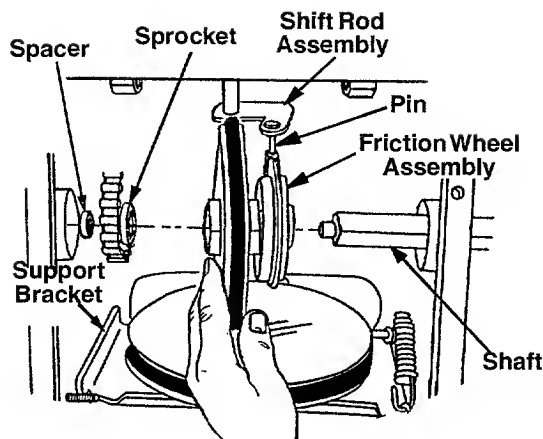

FIGURE 26
- Sliding the shaft to the right, remove the spacer, sprocket, and friction wheel assembly from the shaft. See figure 26.
- Position the friction wheel assembly up onto the pin of the shift rod assembly, and slide the shaft through the friction wheel. See figure 26.
- Slide the shaft into the hex I.D. of the sprocket, the spacer, and the left ball bearing, and secure with the bell washer and hex bolt. See figure 26.